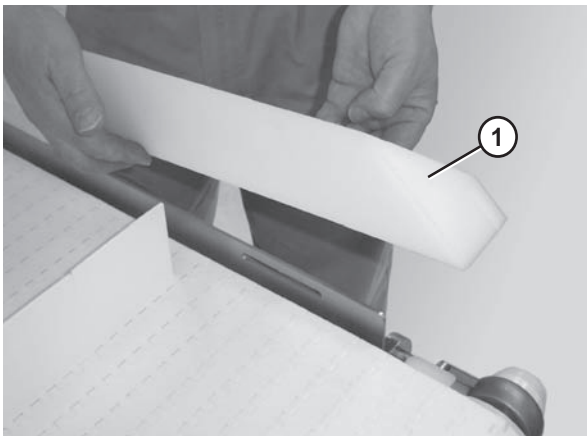

Figure 49
2. Remove the guide (Figure 49, item 1).